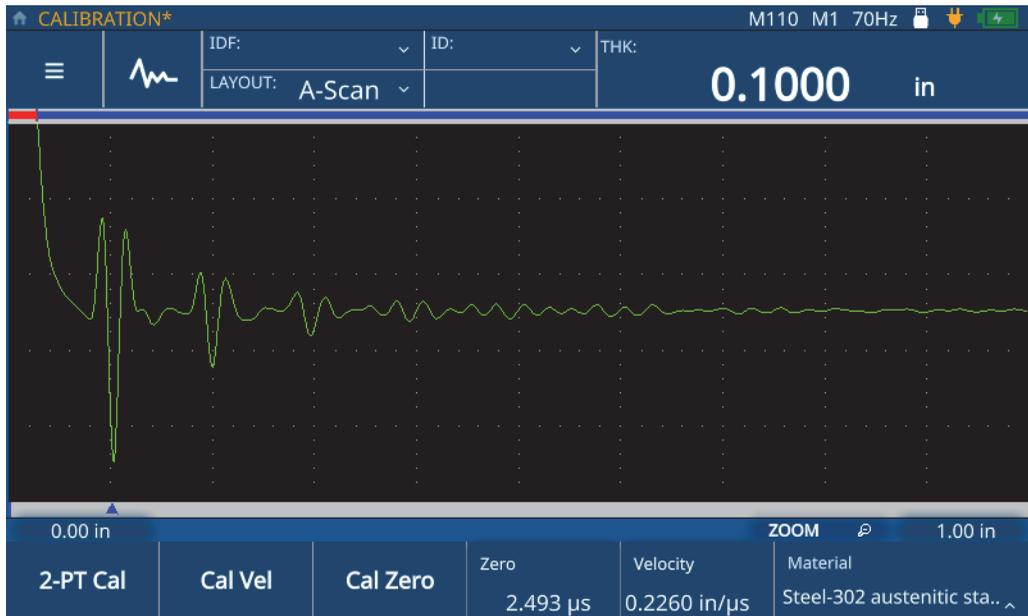

Figure 5-12 Completing 2-Point Calibration
9. Tap the **Check-mark** icon to save the value and exit **Edit** mode (see Figure 5-12 on page 51).